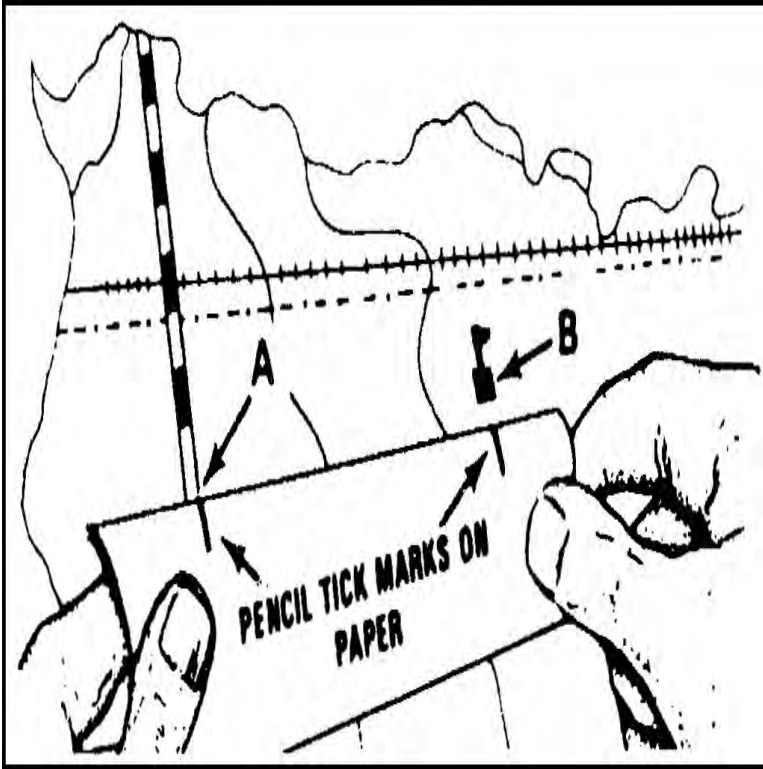

Figure 071-COM-1008-1. Beginning and Ending Points.
- b. Mark the beginning and ending points on the straight edge of the paper (Figure 071-COM-1008-1).